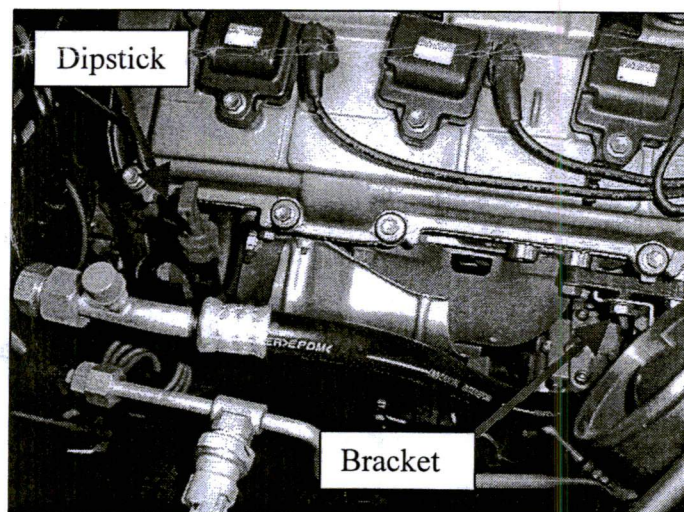

Figure 8
4. Loosen the wire bracket on the PS pump bracket in order to have easier access to the right side manifold flange nuts (Figure 8).
6. If your vehicle is equipped with an automatic transmission, then remove the A/T dipstick and unbolt the dipstick housing from the engine block (Figure 8).